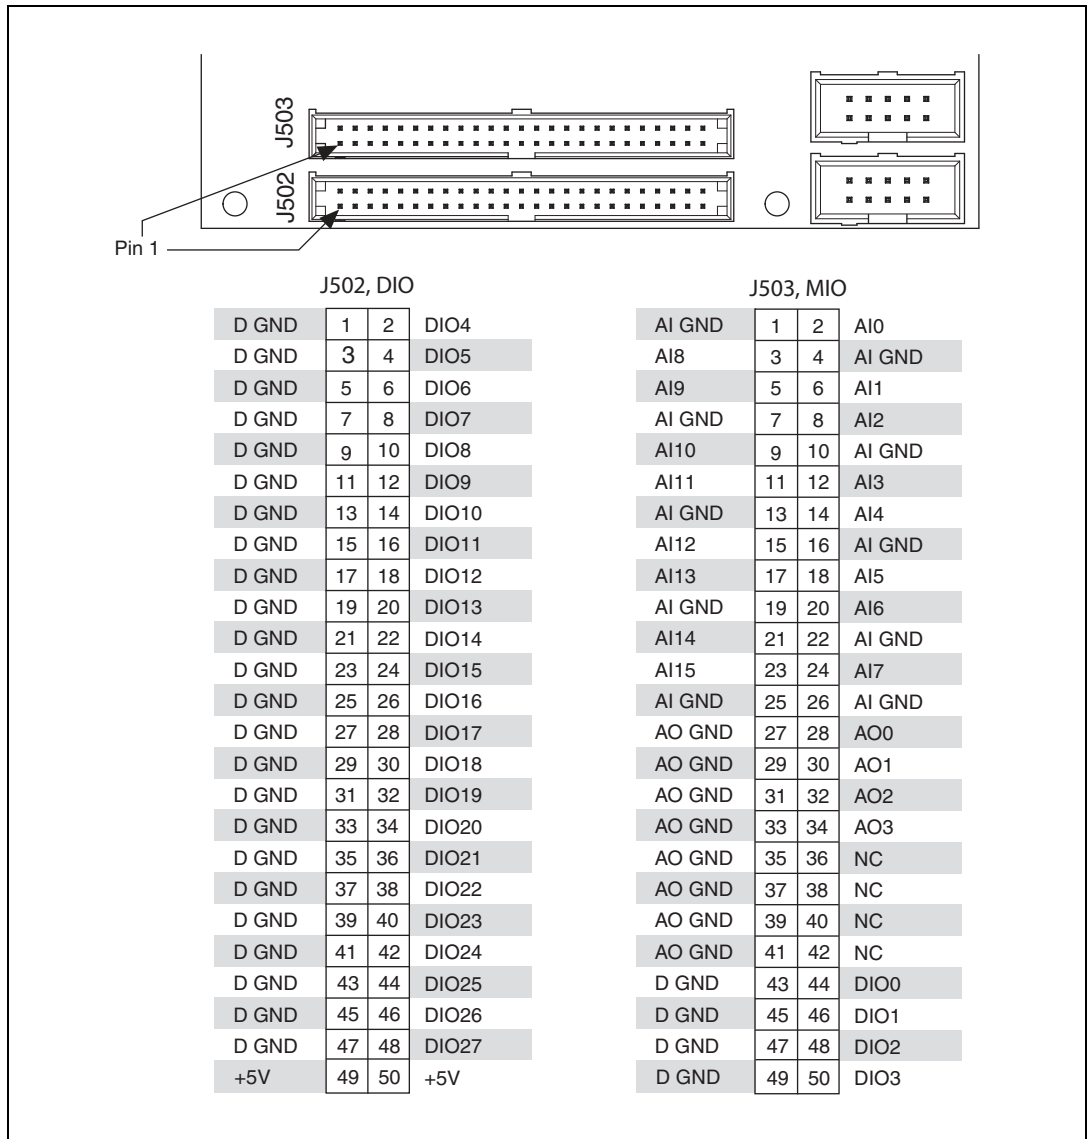

Figure 17. Pinout of DIO and MIO Connectors
Each NI sbRIO-9623/9633 devices has 16 multiplexed, 0–5 V, single-ended, 12-bit analog input (AI) channels. Each NI sbRIO-9626/9636 device has 16 multiplexed, ± 10 V, single-ended or eight differential, 16-bit AI channels. Connector J503, the MIO connector, provides connections for analog inputs, outputs, and grounds. Refer to Figure 17 for a pinout of connector J503.